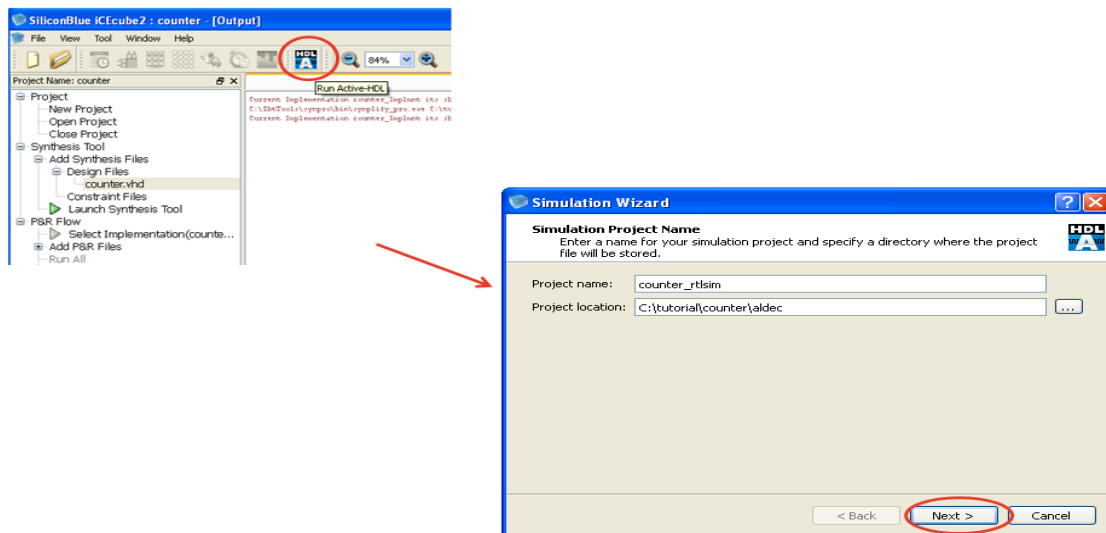

Figure 10-3: Launch Simulation Wizard and Specify Simulation Project name.
1. After creating iCECube2 project and added the RTL design files, launch simulation wizard by selecting the “AHDL” icon menu as shown in Figure 10-3. In the Simulation Wizard specify the simulation project name and simulation project location. The default project location is “Current iCEcube2 project directory\aldec”. Click on “Next” icon.